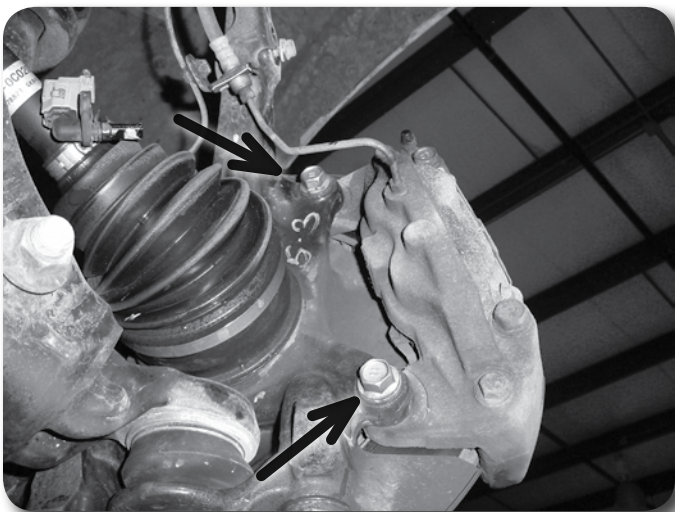

Figure 9
12. Remove the bolts mounting the brake caliper to the steering knuckle **Figure 9**. Hang the caliper and the brake/ABS lines out of the way. Save caliper hardware.